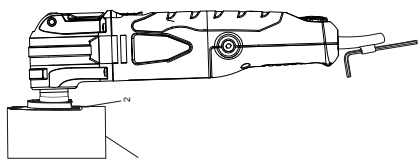

Figure 8
2. Place the outlet box on the drywall and use a soft lead pencil to trace the required rectangular hole (1) on the drywall. (Figure 8)